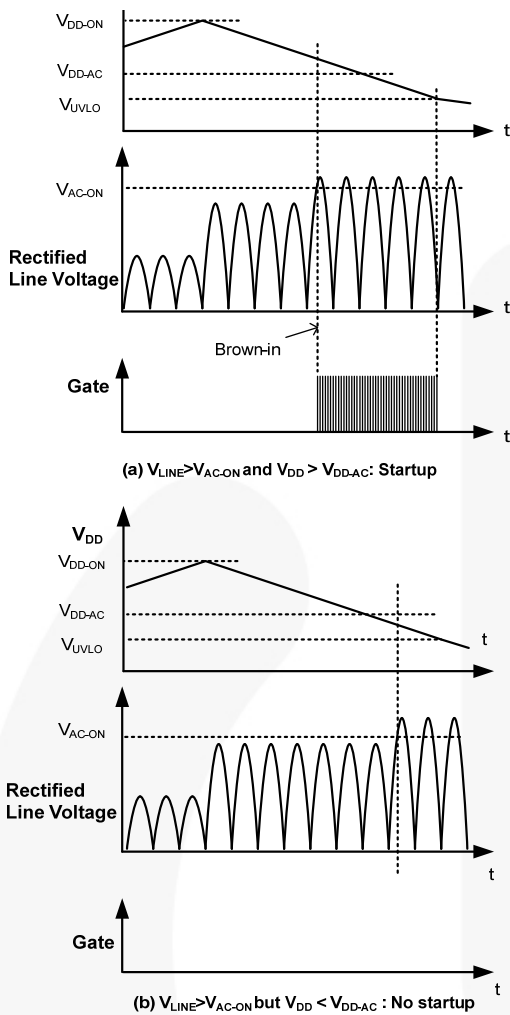

Figure 34. Timing Diagram for Brown-in Function
- $V_{DD}$  must be larger than  $V_{DD-AC}$  to start, even though the sensed line voltage satisfies Equation (2), as shown in Figure 34.